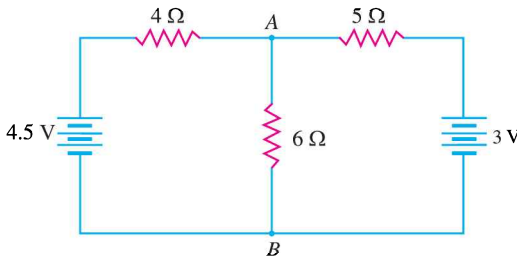

Fig. 1.50
- Using Norton's Theorem, find the current in branch AB containing 6 Ω resistor of the network shown in Fig. 1.50. [0.466 A]